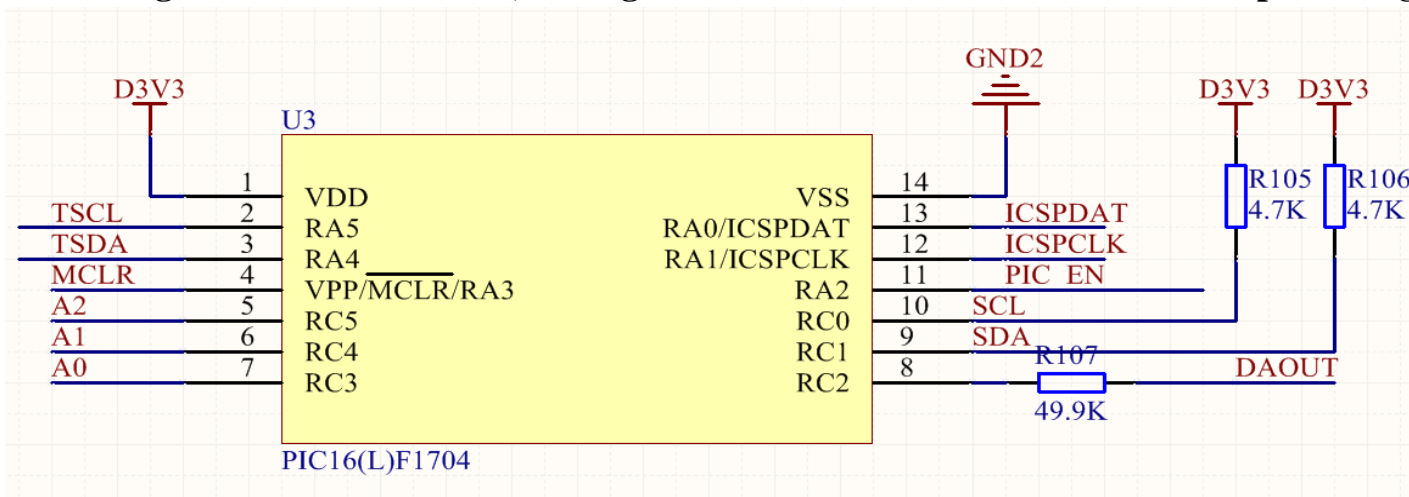
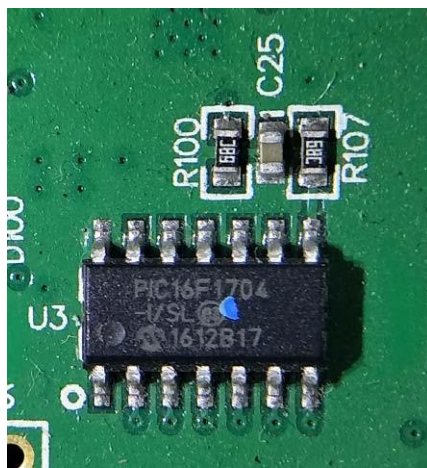

Fig 13. PIC Schematic
Fig 14.
5. DC-PIC: Composed of PIC16(L)F1704. See Fig 13 and Fig 14, the device stores chip frequency information and voltage value of Hashboard, through which we can control the DC-DC output voltage of Hashboard.